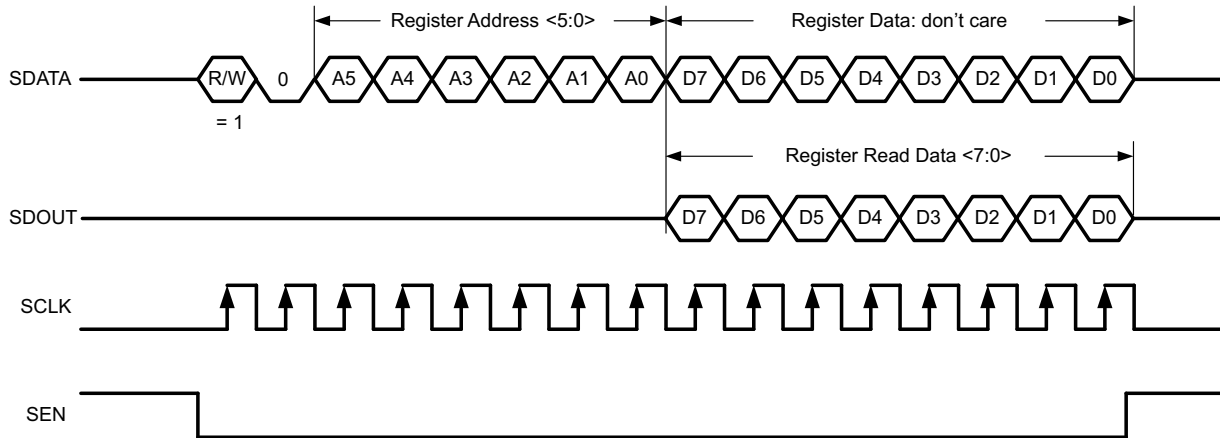
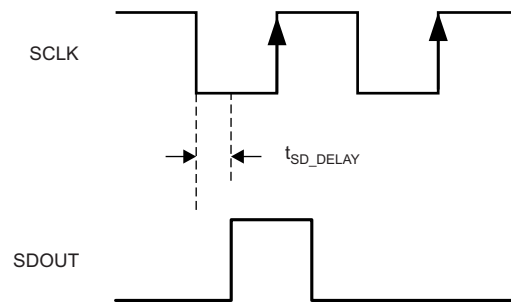

Figure 80. Serial Register Readout Timing Diagram
Figure 81. SDOUT Timing Diagram
2. Write the address of register on bits A5 through A0 whose contents must be read. See Figure 80
When serial registers are enabled for writing (bit A7 of 8-bit address bus is 0), the SDOUT pin is in a high-impedance mode. If serial readout is not used, the SDOUT pin must float. Figure 80 shows a timing diagram of this readout mode. SDOUT comes out at the SCLK falling edge with an approximate delay (t_{SD_DELAY}) of 20 ns, as shown in Figure 81.